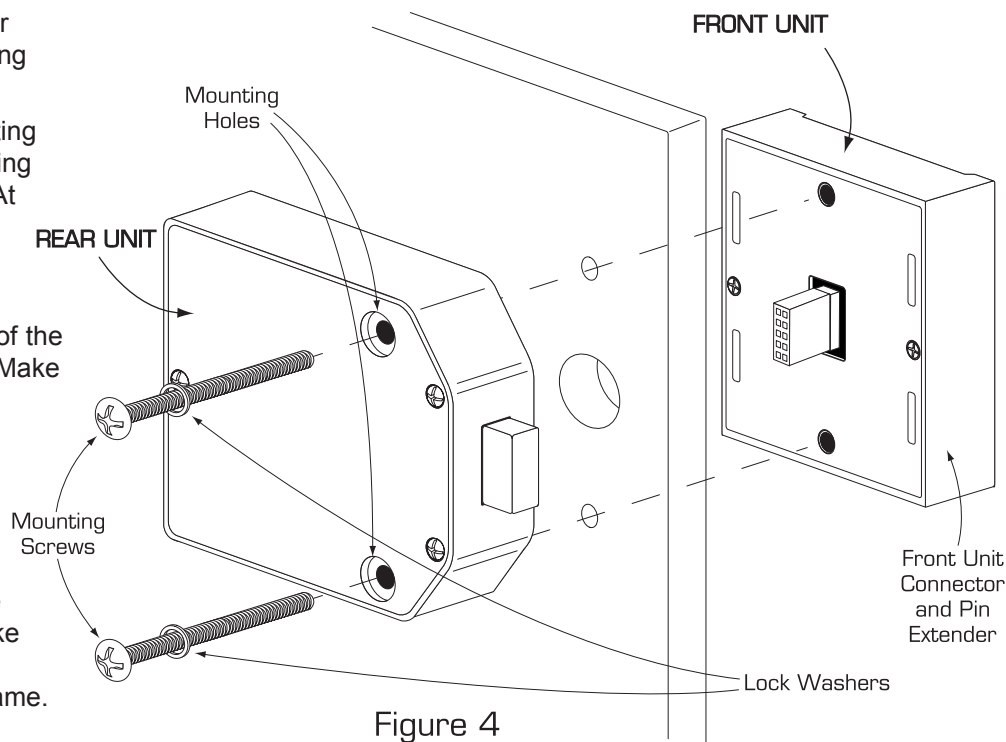

Figure 4
- ④ Place the rear unit against the rear face of the door, aligning its mounting holes with the door. (See Figure 4)
Place the front unit on the front face of the door connecting it with the rear unit. Make sure to align the pins of the rear unit connector with the extender of the front unit connector. Tighten the mounting screws. (See Figure 4)